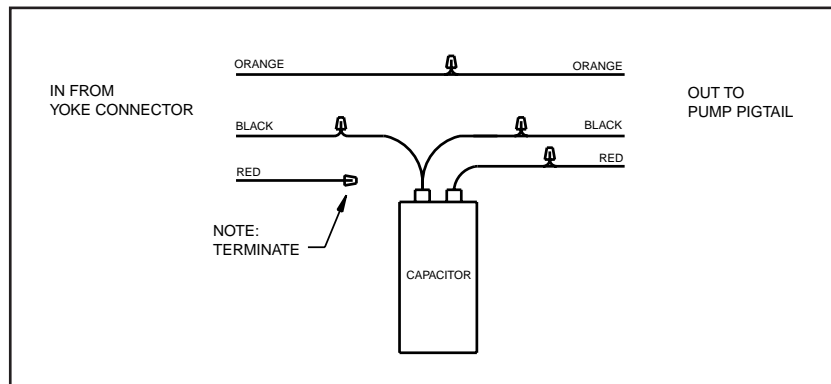

Figure 1 Wiring schematic
(1) Red Wire	(1) Red Wire	(1) Red Wire
(5) Wire Nuts	(5) Wire Nuts	(5) Wire Nuts
- 9: Attach like colored wires from capacitor to pump pigtail wire. See figure 1
- 11: Attach like colored pump pigtail wire to yoke connector wire using wire nut. See figure 1 to verify connections.